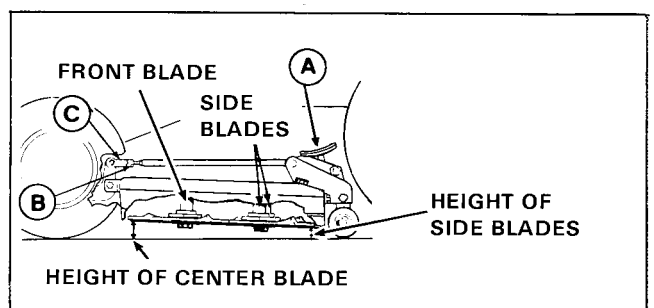

Figure 24. Level Mower
2. Turn both mower height adjustment handles (item A, figure 24) fully clockwise to the highest cutting height position.
3. Rotate the mower blades so the tips point straight forward and backward as shown in figure 24.
- a. Loosen the jam nuts (item B, figure 24).